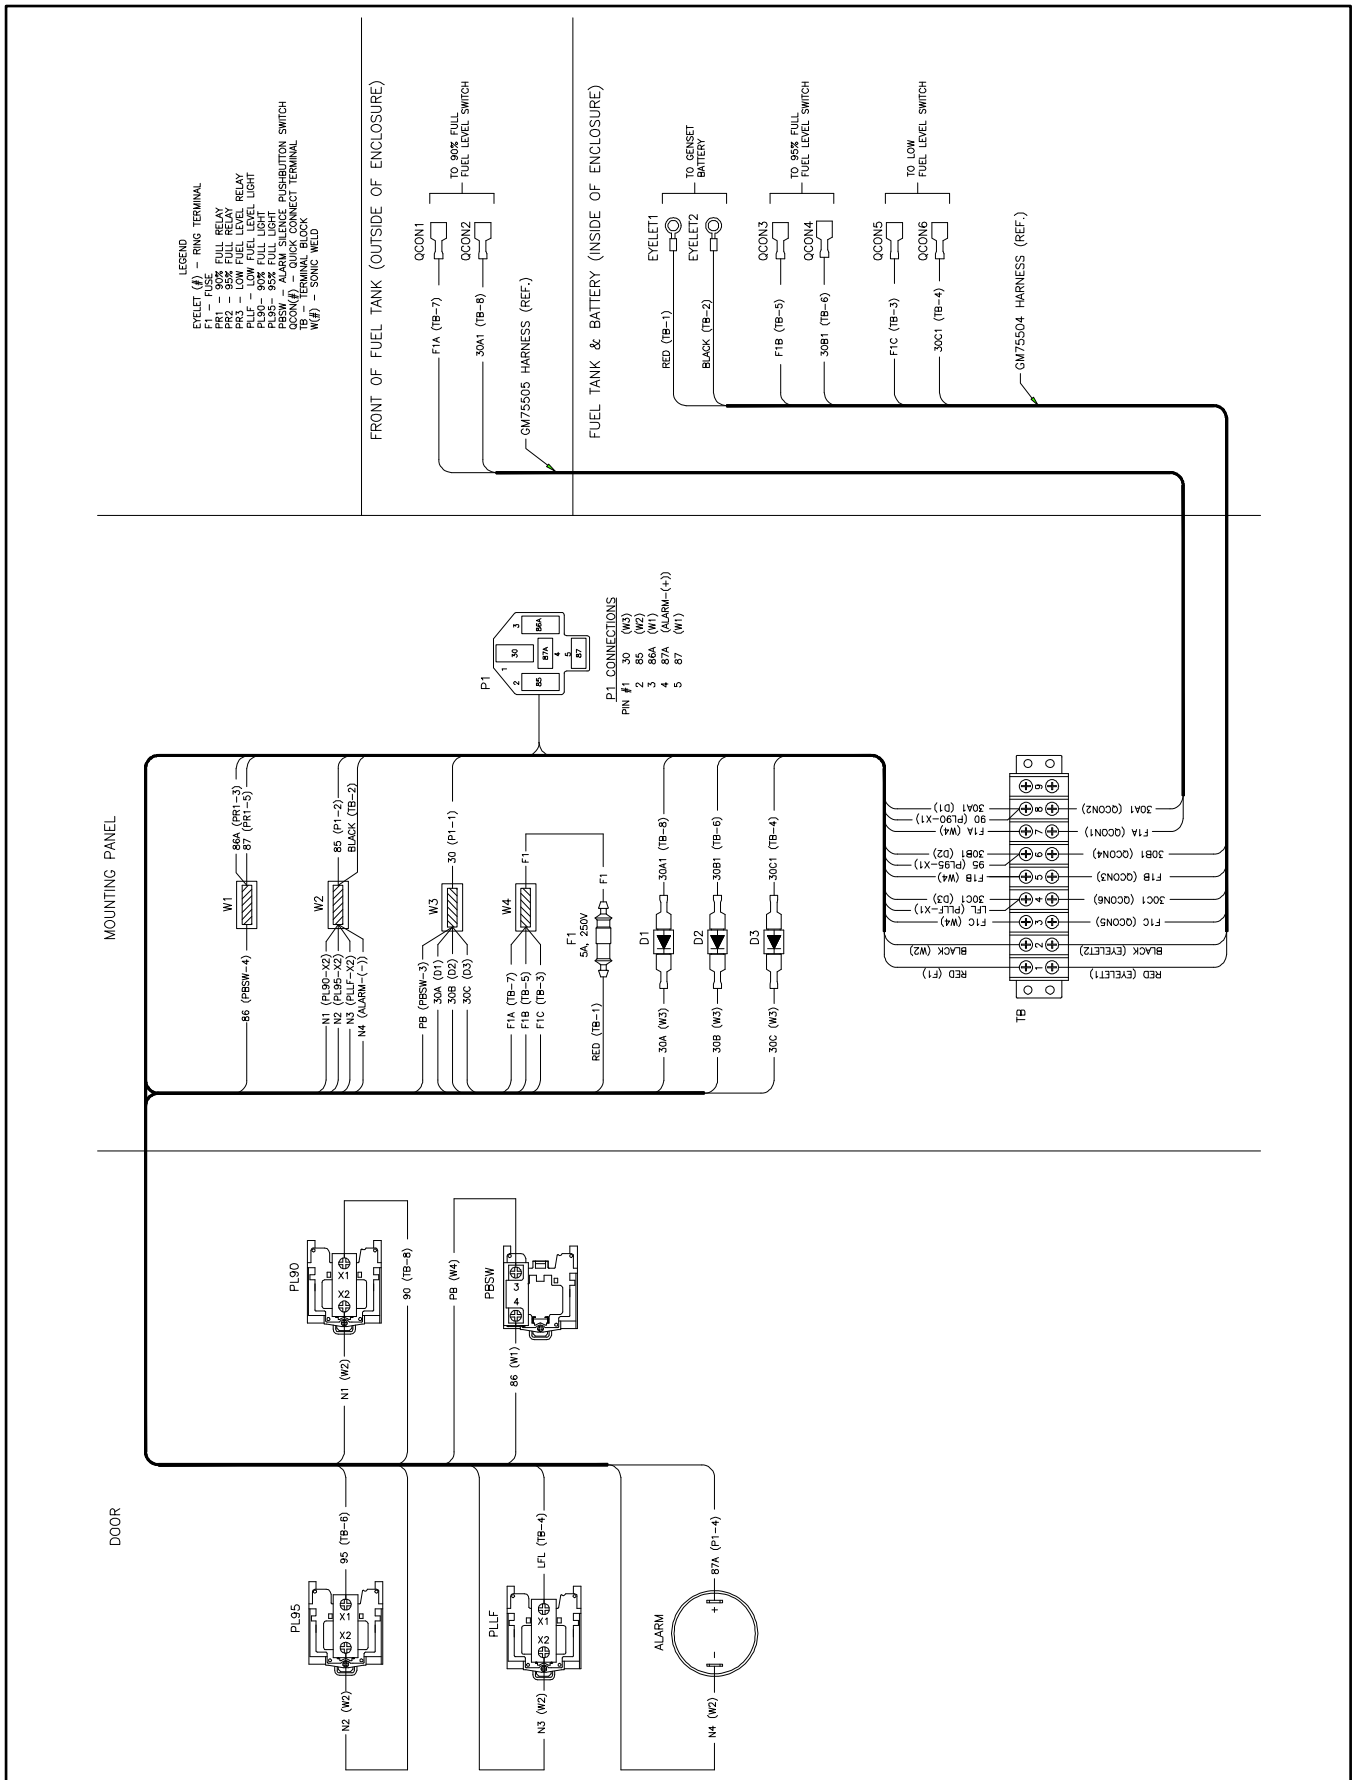

Figure 54 Fuel Monitoring Panel Wiring Diagram, GM86940 Sheet 2
The fuel monitoring panel provides visual warning lights and audible alarms for low, 90%-full, and 95%-full tank fuel levels. To monitor these tank fuel levels, the fuel monitoring panel connects to switches through wiring harnesses that are protected by flexible conduit. If the fuel tank and the generator set enclosure are shipped separately, the wiring harness may need to be connected during the installation process. Because the generator set batteries provide DC voltage to power the fuel monitoring panel, an AC power supply is not needed for this accessory. The following procedure shows the connections for the wiring harness from the monitoring panel to the connections on the tank and batteries. See the system overview, Figure 50, and the wiring diagram, Figure 54.
- b. Connect the wiring harness to the terminal block as shown in Figure 54.
- a. Connect the quick connects 3 and 4 to the 95%-full fuel level switch. See Figure 54.